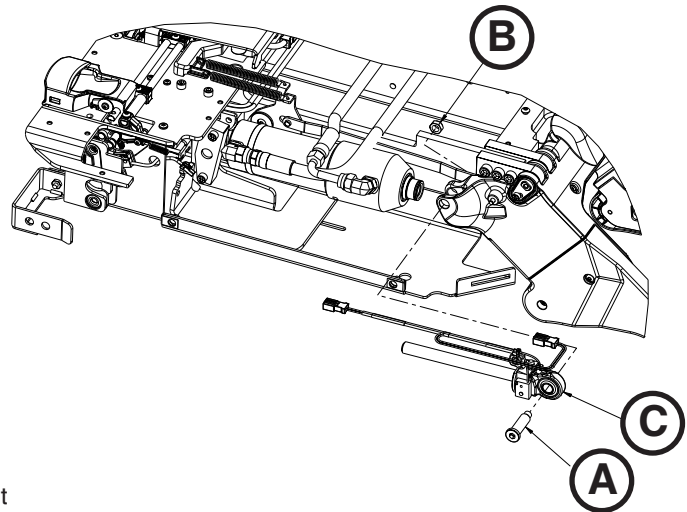
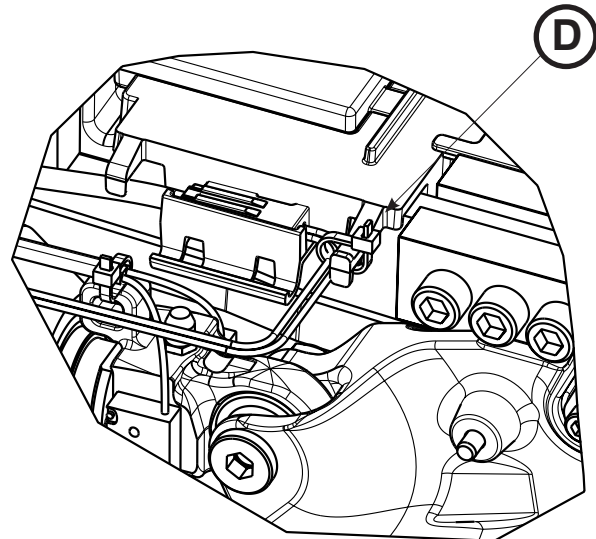

Figure 83
Figure 84
4. Using a 1/4" hex wrench and a 1/2" combination wrench, remove the end cap cylinder pin (A) and nut (B) (Figure 83).
5. Using diagonal pliers, cut the zip ties (D) (Figure 84) that secure the hydraulic cylinder rod end assembly (C) cable to the plastic cover (Figure 83).
6. While lifting up on the cylinder, remove the hydraulic cylinder rod end assembly (C) (Figure 83). Save the hydraulic cylinder rod end assembly for reinstallation.